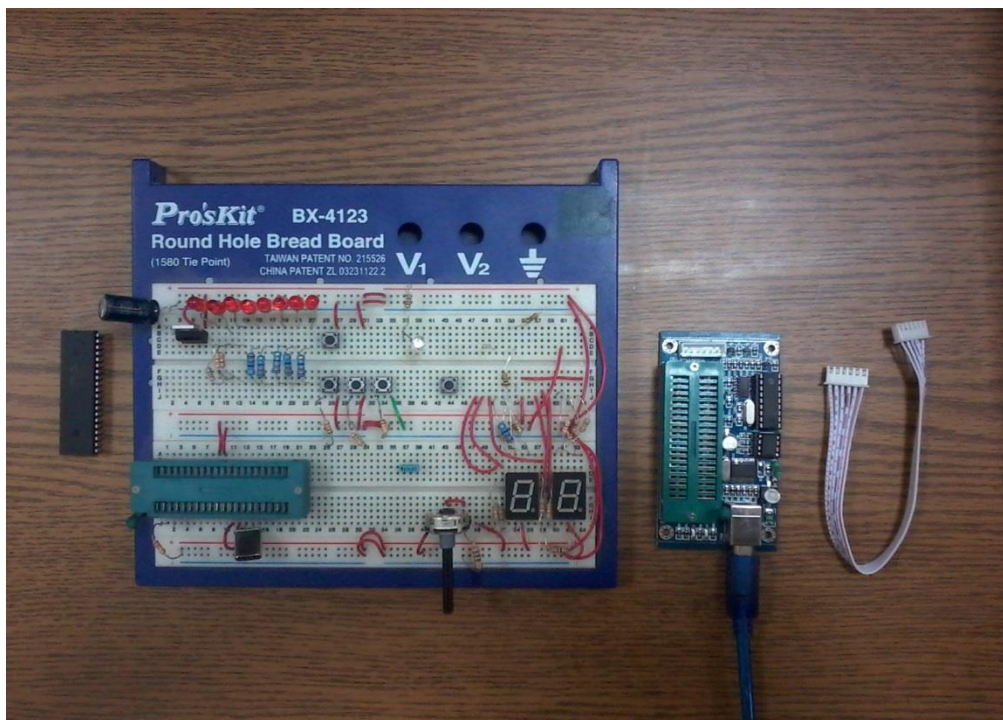

Figure 1.1: Equipment and devices used in the experiment.
3. Breadboard and electronic components as shown in Figure 1.1